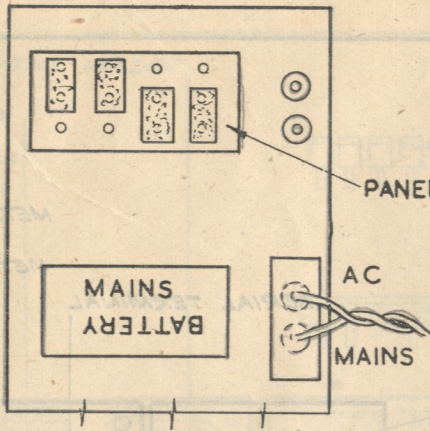
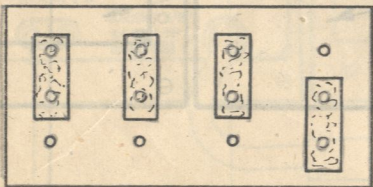

FIG. 1
FIG 4 FOR 220-234 V
B. **To adjust the Power Plug to a known Voltage:** Insert the "Mains—Battery" plug to read "Mains" as in Fig. 1. The selection is made by inserting 4 small 2-pin plugs into the holes provided on PANEL A. (See Fig. 1.) The plugs must be pushed well in and cover the numbers which add together to the voltage required. Two plugs must always cover either the "205v" or "102v." The other two plugs are used to cover "+Ov," "+10v" or "+20v." (See Figs. 1 to 9). Thus in Fig. 4, plugs (A) and (A) cover "205v," plug (C) covers "+20v" and plug (D) covers "+Ov." The Power Pack is now adjusted for a mains voltage of  $205 + 20 + 0 = 225$  volts. In practice this setting is used for any voltage between 220 and 234 volts. Similarly in Fig. 9, the voltage is  $102 + 20 + 10 = 132$  volts. This setting is used for any voltage between 127v and 140 volts.
- If this reading is less than  $\frac{1}{2}$  scale (300) switch off and reset the voltage selector to the next lower setting,—Fig. 4 and recheck the meter reading.
- Proceed thus until a voltage setting is found in which the meter reads as nearly  $\frac{1}{2}$  scale (300) as possible.